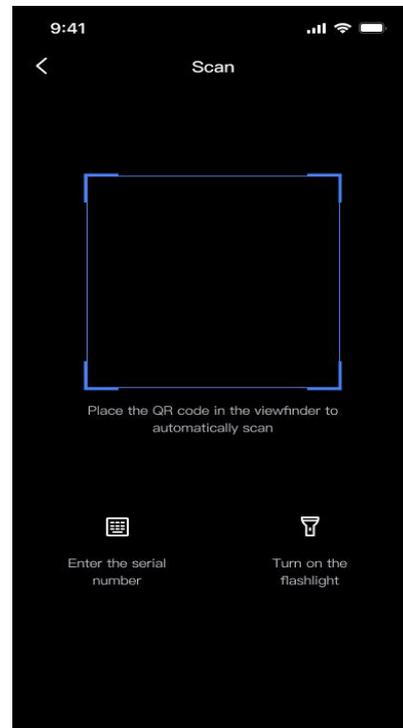

Figure 8.5.2
- Way 2: Click on the QR code icon, enter the QR code scanning page, and bind the device by scanning the device QR code (as shown in Figure 8.5.2)